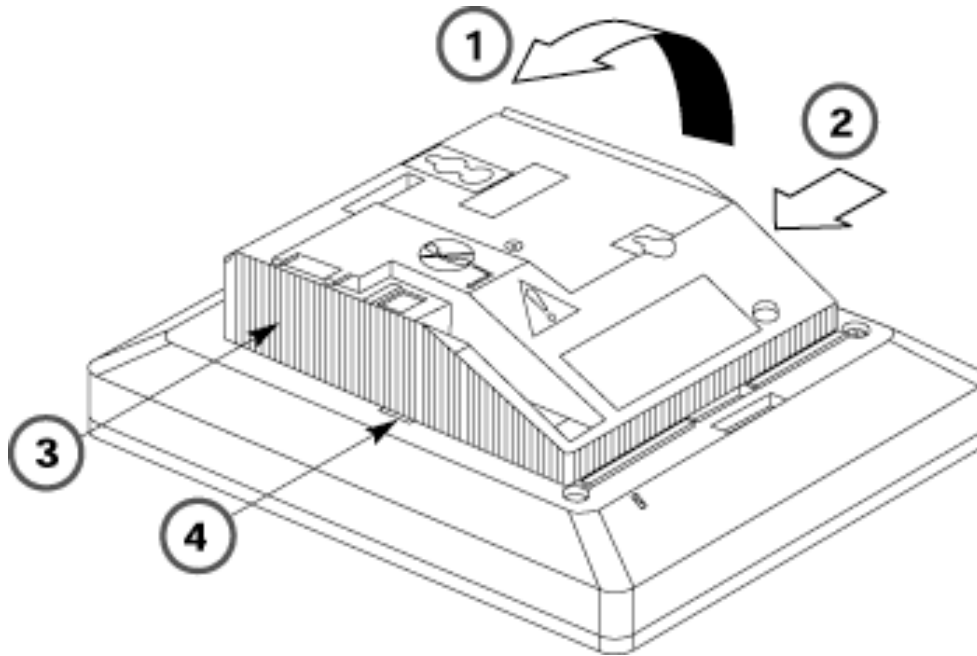

Figure 3-33. Releasing the Module Cover
3. Swing open the module cover to release it from the left side locating slot. See Figure 3-33.